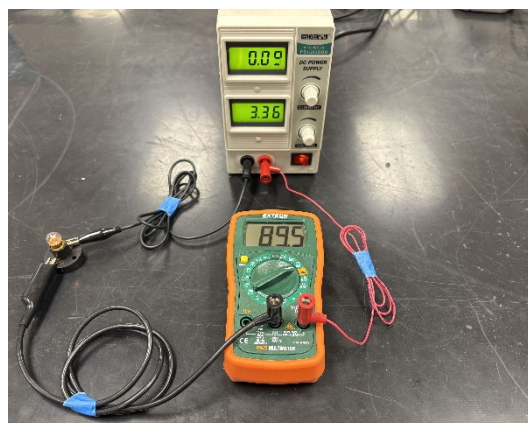
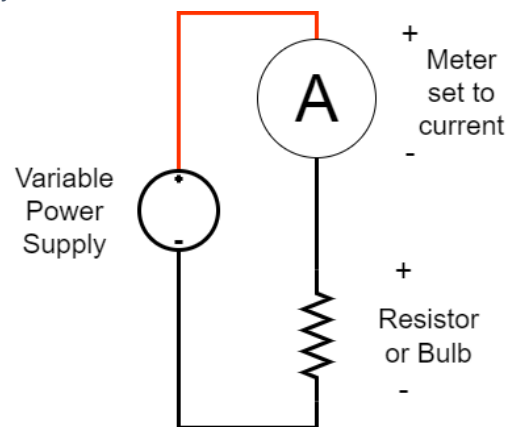

Figure 5: Power supply and Ammeter connected to the bulb for current measurement.
Figure 6: Circuit for current measurement.
2. To connect in series, the power supply should connect to the positive lead of the meter. The negative lead should connect to one of the light bulb screws. The other screw terminal should connect back to the negative terminal of the power supply. It is recommended that you use some clips so you do not have to hold the multimeter leads in place to complete the circuit. When done, it should look like Figure 5. The circuit is given by Figure 6.